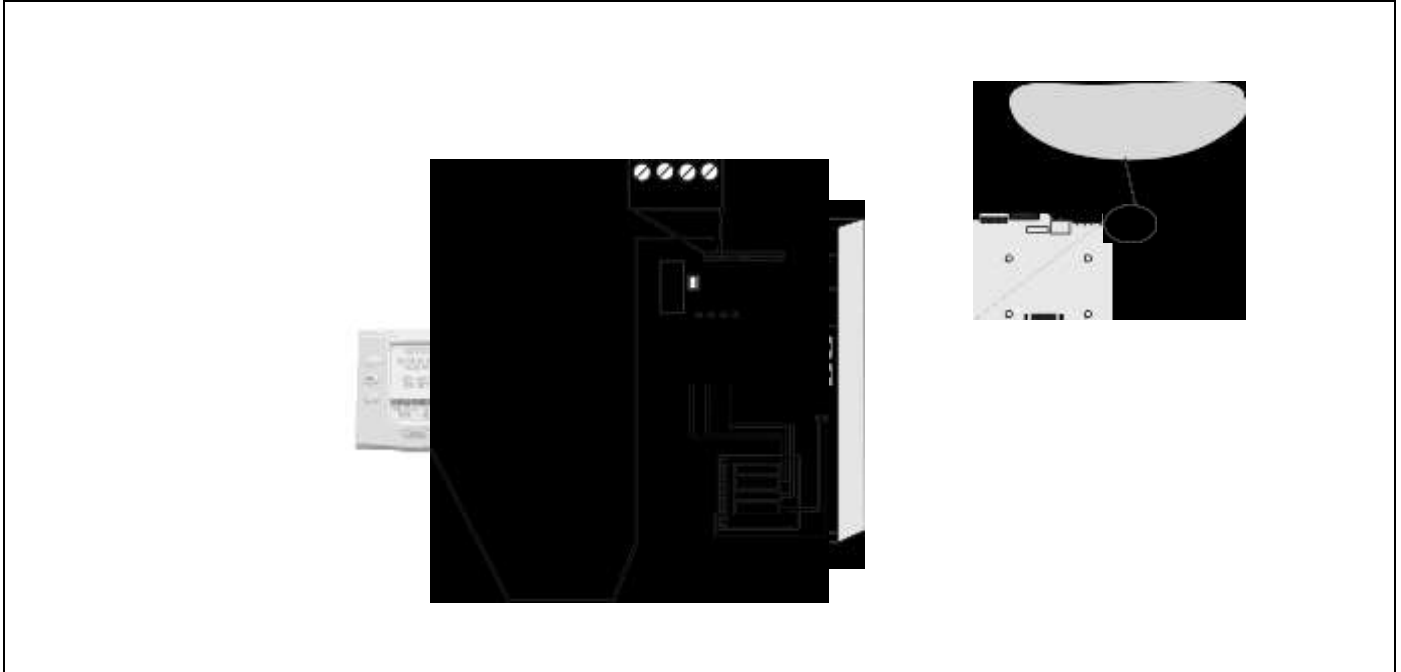

Figure 11. Wiring an Chlorinator to an AquaLink RS Control System Network
The Jandy AquaLink RS and Chlorinator use a four (4) wire connection to communicate and can be wired up to 500 feet apart. Any outdoor rated four (4) conductor cable can be used. Locate the appropriate screw terminals on the circuit board according to Figure 11. Wire the master Chlorinator from the red 4-pin terminal bar to the AquaLink RS red 4-pin terminal bar (see Figure 11).
IMPORTANT Attach the master Chlorinator wires to the like-numbered screw terminals on both the Chlorinator and AquaLink RS as shown in Figure 11.